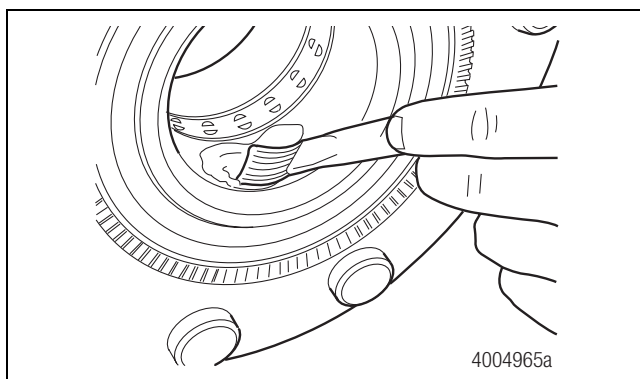

Figure 3.27
- C. Apply a light coating of bearing grease to the hub bore. The entire hub bore which comes in contact with the spindle should be covered. This grease will help reduce spindle wear, assist in hub removal, and help seal the hub-spindle joint. Figure 3.27.